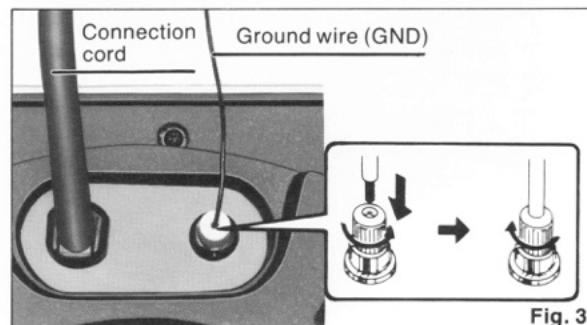

Fig. 3
3. Attach the ground wire to the motor assembly. (Fig. 3)